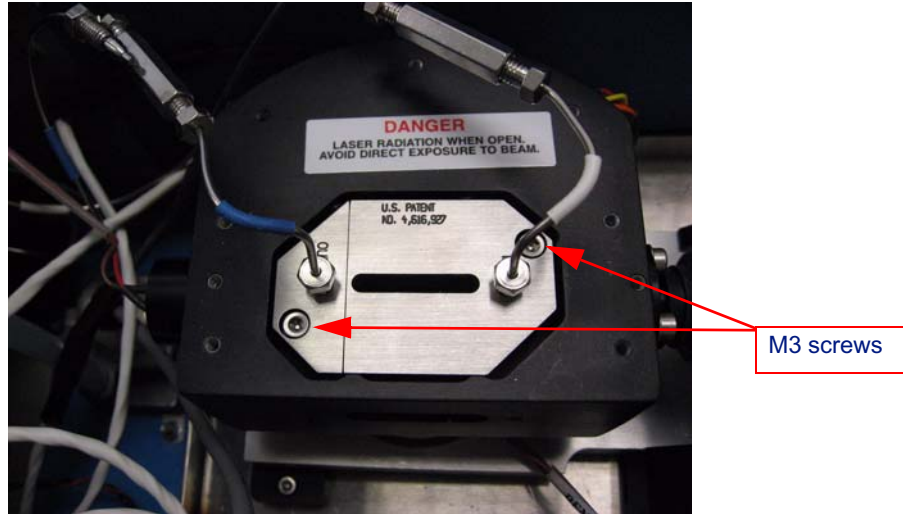

Figure 5-3: Flow Cell
8. Use the 2.5 mm Ball driver to remove the two M3 screws, then lift the cell assembly up and out of the read head using the tubing. See Figure 5-3.